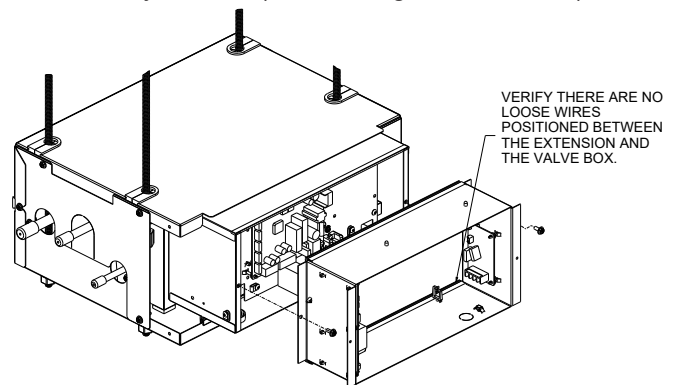

**FIGURE L.3**
- 4.3 Verify there are no loose wires positioned between the extension panel and the Valve Box, then secure the panel at each indicated location. Ensure the Edge Seal is correctly seated. (Refer to Figs. L.3 and L.4.)